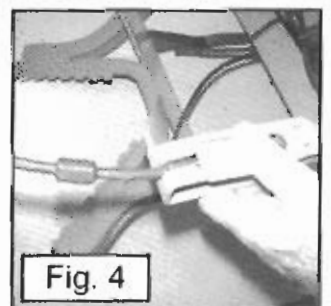

Fig. 4
D. YOU MUST rotate the hatch cover back over the bracket so that it snaps and locks into place, as shown in **Figure 4**. **IMPORTANT:** If the hatch cover does not lock and snap into place, squeeze it together while in the open position to assure it remains snapped in place when rotated over the bracket.